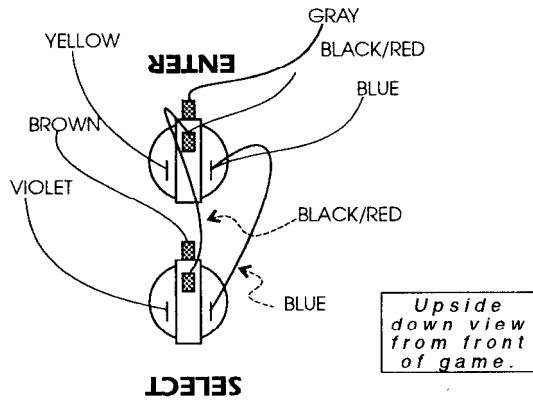

Fig. 5. Harness connections to "Select" and "Enter" switches.
5. Re-connect the wires to the switches as shown in Fig. 5.
5. Press the new decals on top of the existing decal (See Fig. 5). Replace coin door assembly. Replace stabilizer (on 6300T only).